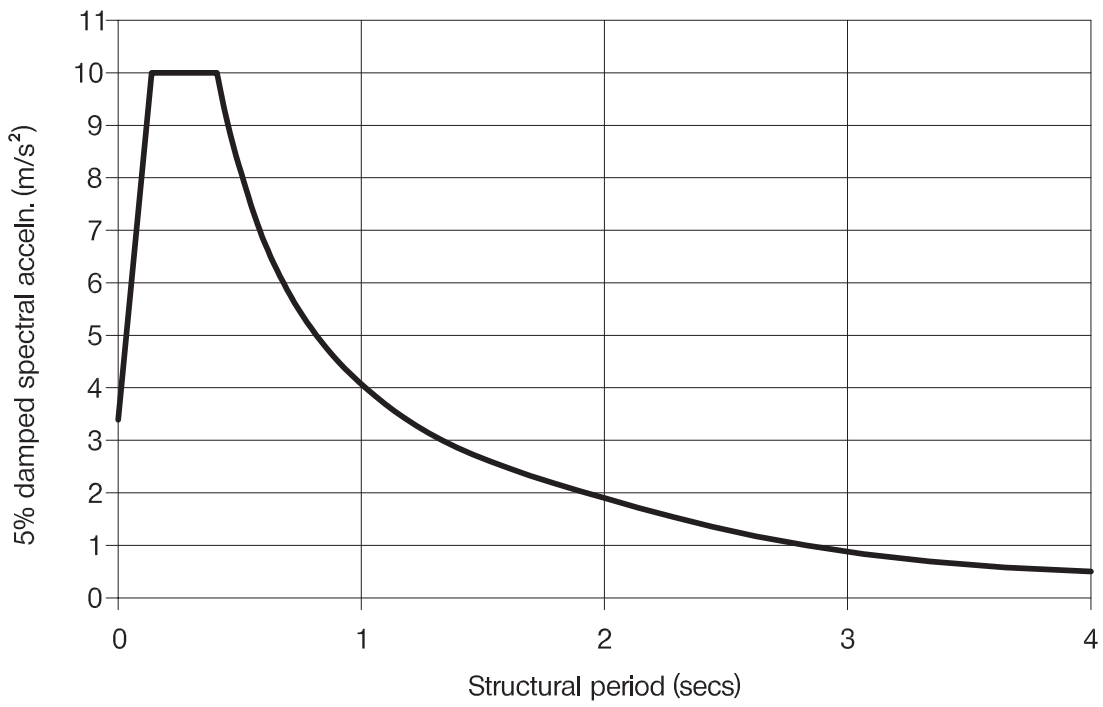

FIGURE 2 : 475 year return period motions for rock outcrop at site
9. Figures 2 and 3 show the design 5% damped seismic response spectrum for the region. It applies to level ground for a 475-year return period assuming the ground surface is rock with shear wave velocity of not less than 800m/s